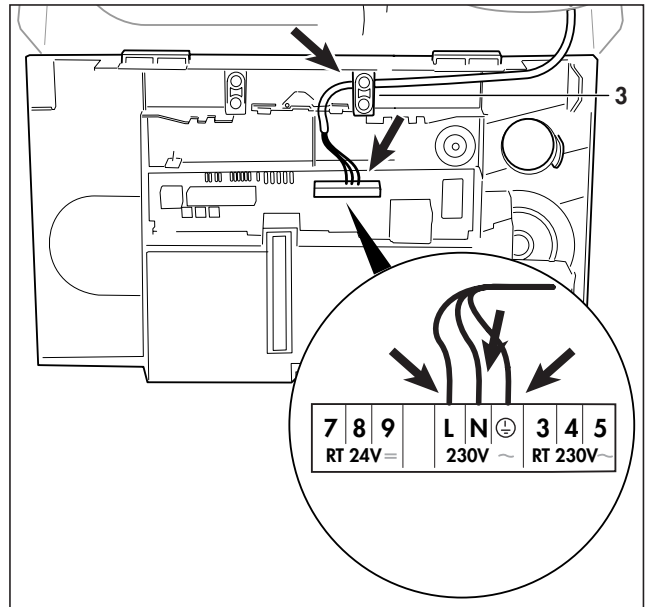

Fig. 5.11: Wiring system
- Unclip the terminal box cover (1) from the control panel.
- Feed the power supply cord in to the appliance as shown (fig 5.11).